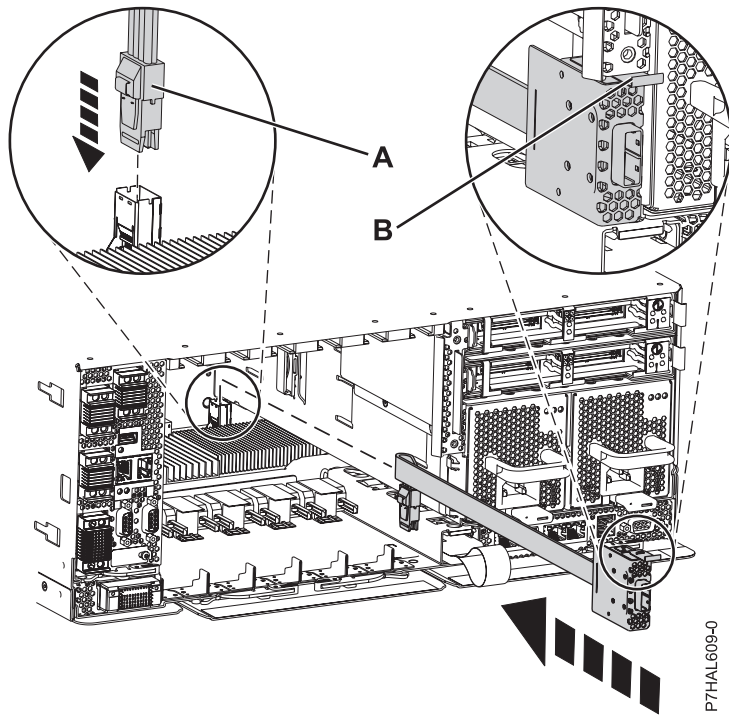

Figure 53. Replacing the SAS cable
1. Connect the external port to the back of the system (B) until it snaps in place, as shown in Figure 53 on page 80.
2. Push the SAS shroud (A) into the SAS connection on the system backplane until it snaps in place.